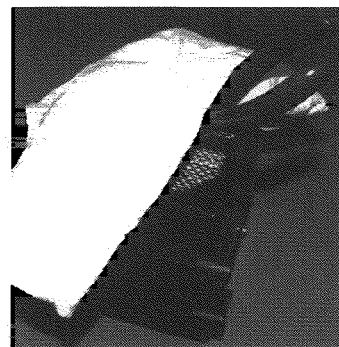

Fig. 3
3. Cover the lamp and wire cutters with a cloth (Fig. 3).